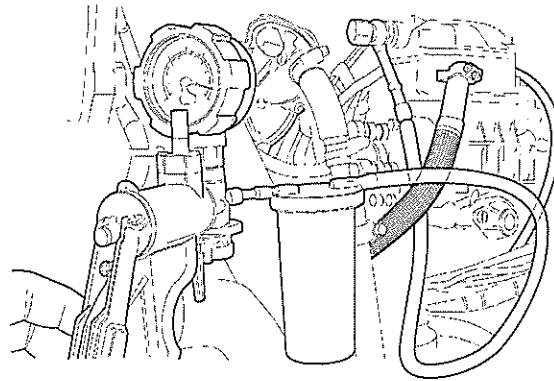

Fig 36 Priming fuel system manually
96.4 Remove the return pipe from the fuel injection pump and connect vacuum pump 800.1.56.034.1 using clear hose in place of the return pipe (see Fig 36).